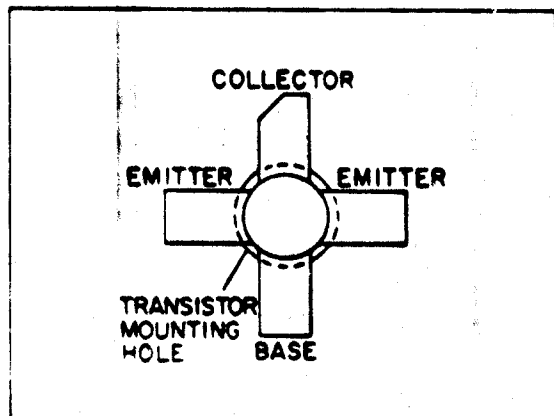

Figure 2 - Lead Identification
4. Trim the new transistor leads (if required) to the lead length of the removed transistor. Cut the collector lead at a 45° angle for future identification (see Figure 2). The letter "C" on the top of the transistor also indicates the collector.